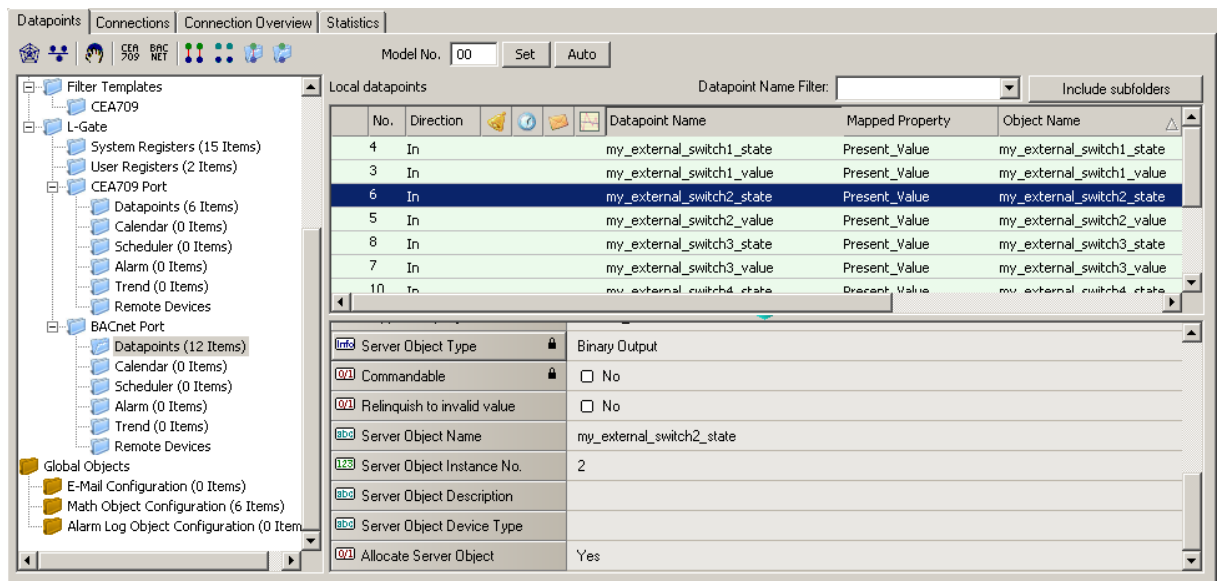

Figure 82: Auto-created BACnet Points in the BACnet Folder
6. The generated BACnet objects appear in the L-Gate/BACnet Port/Datapoints folder as shown in Figure 82.